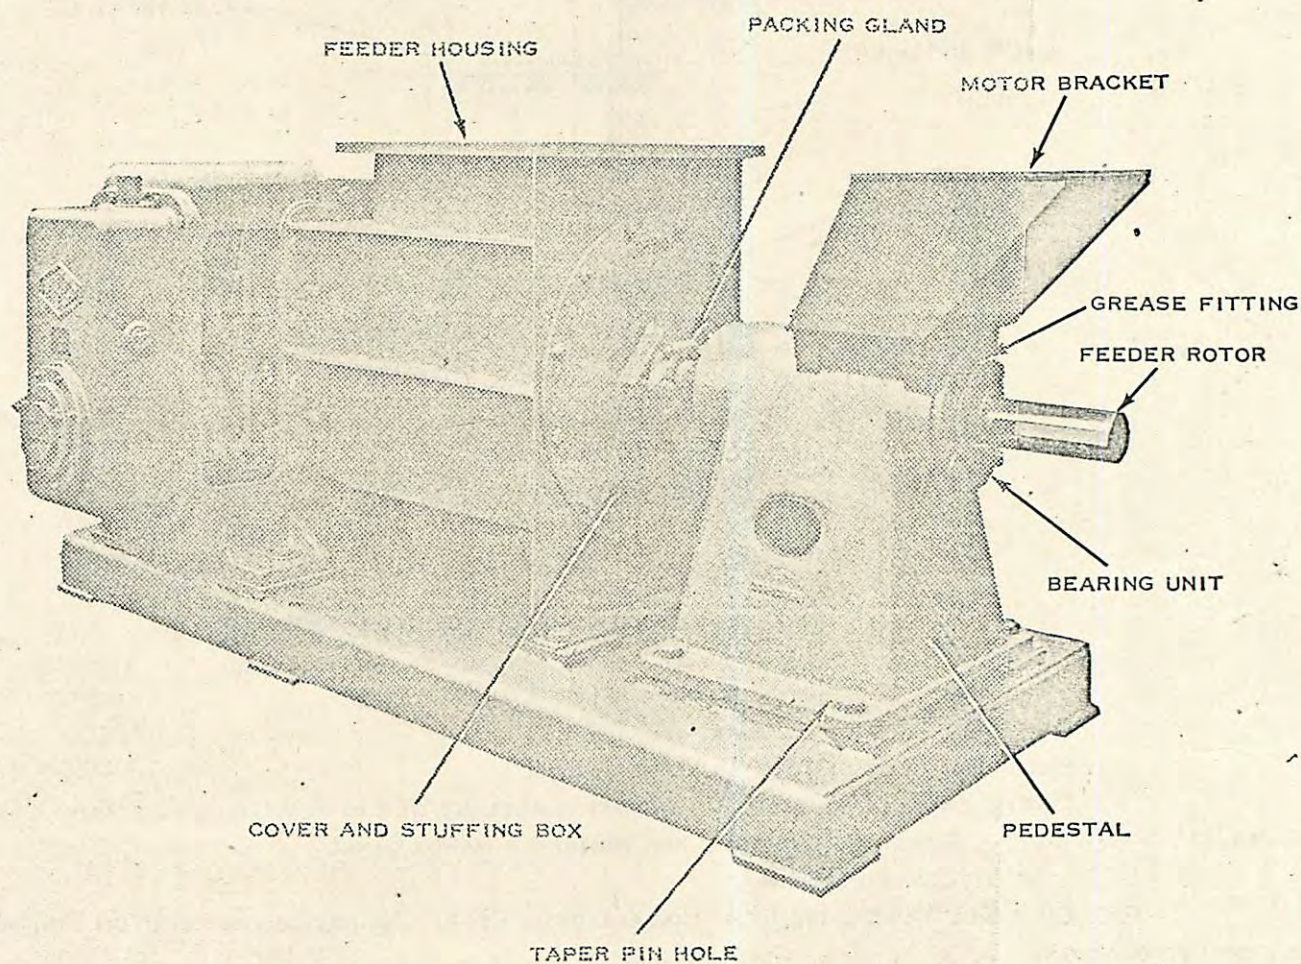

FIGURE 16. FEEDER
2. UNBOLT THE COVER AND STUFFING BOX (SEE FIGURE 16).